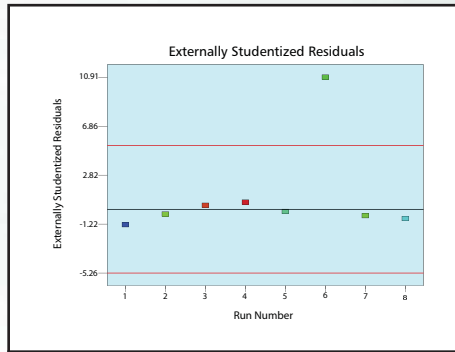
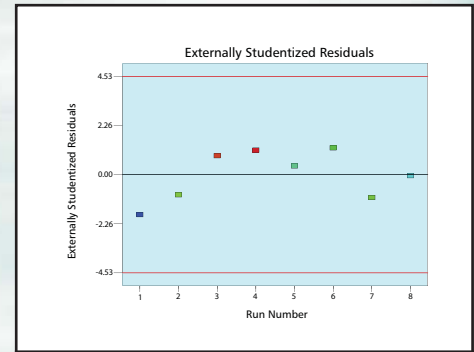
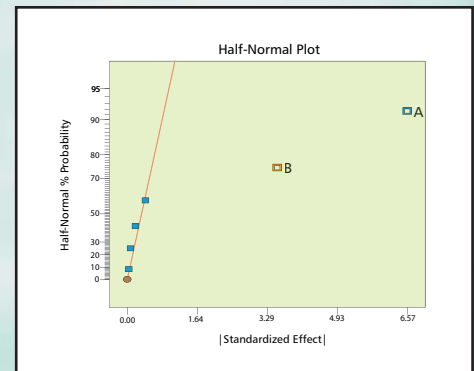

Fig. 2a: Diagnostic plot showing run 6 being an outlier (after modeling tire pressure—Factor B)
Fig. 2b: Diagnostic plot modeling Factor A only
Fig. 3: Effects plot after ignoring run 6
Run 6 (A/C on, 29 psi tire, 91 octane) emerges statistically deviant on the high side when the main effect of tire pressure (B) is modeled (in addition to the air conditioning—factor A). See Figure 2a for the evidence—an externally studentized residual (once known as “outlier t”) falling far above the 95 percent confidence limit. (Compare this to Figure 2b which models factor A only—no outlier!) With this run ignored, the half-normal plot of effects (shown in Figure 3) looks normal—the trivial many effects line up on zero. The main effect of tire pressure (factor B) stands out as a positive effect, which is what Ashley hypothesized. Higher tire pressure does increase the miles per